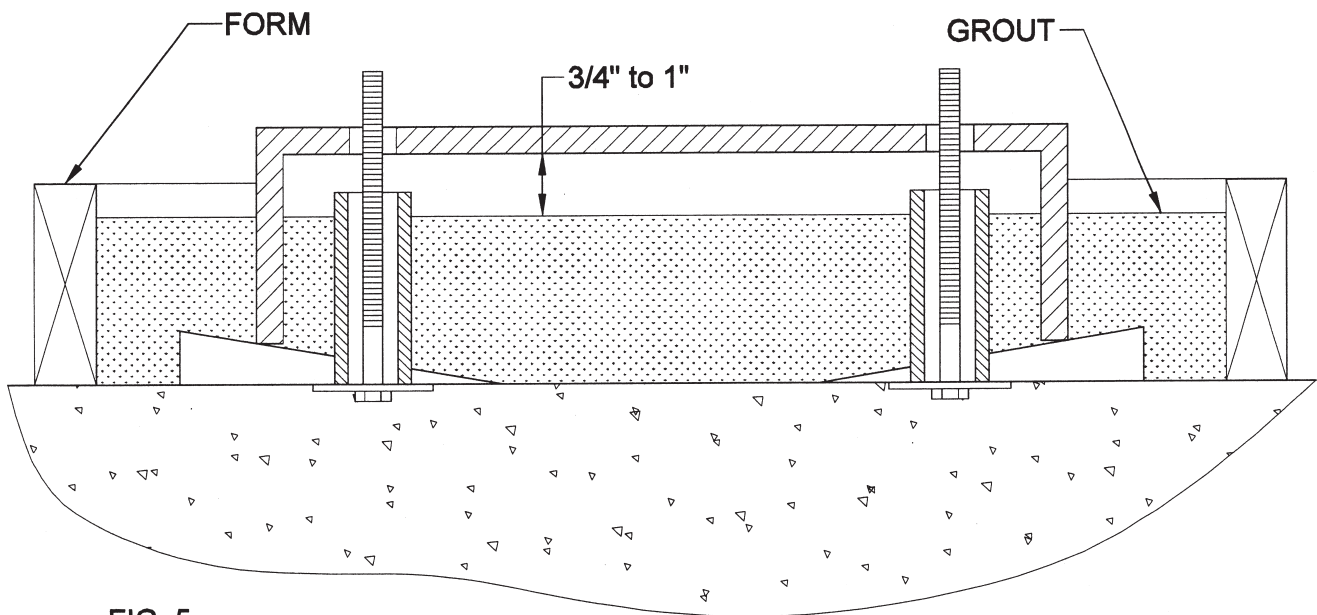

FIG. 5
2. Build a form around the base as illustrated in Fig. 5. Then thoroughly wet the foundation.